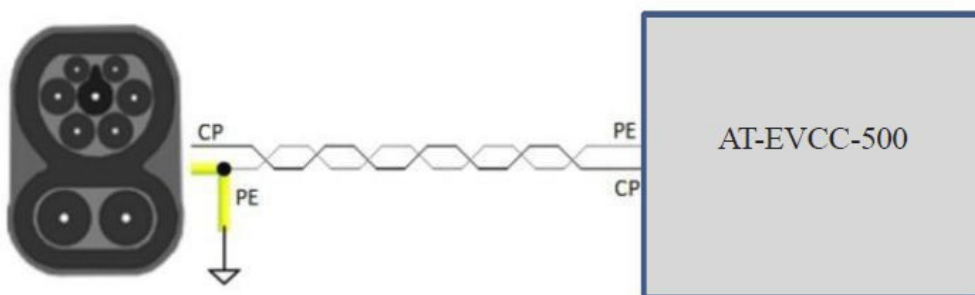

Figure 1 PE should be grounded near the vehicle charging port
- ① CP&PE wiring should be routed as close as possible to the vehicle-end charging socket. Llimit <2 m; Figure 1